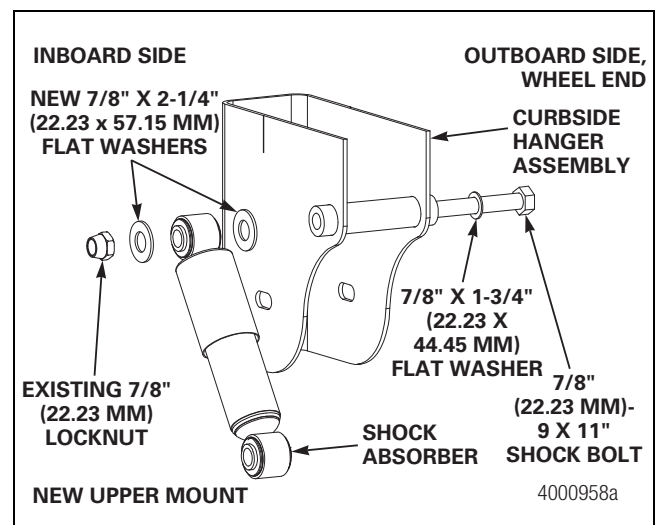

Figure 9.28
4. Install the new 7/8-inch x 2-1/4-inch O.D. (22.23 x 57.15 mm) washer between the shock tube and shock absorber. Install the new, larger washer between the shock absorber and locknut. Hand-tighten the nut. Figure 9.28.
- Install the new 7/8-inch x 2-1/4-inch O.D. (22.23 x 57.15 mm) washer onto the upper shock absorber bolt between the shock tube and the shock absorber. Install the larger-diameter washer and locknut. Hand-tighten the nut. Figure 9.28.